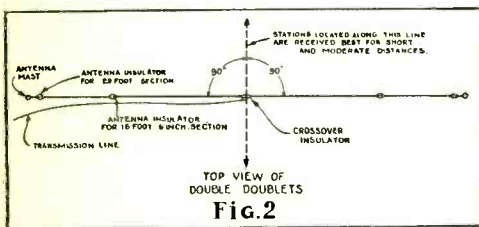
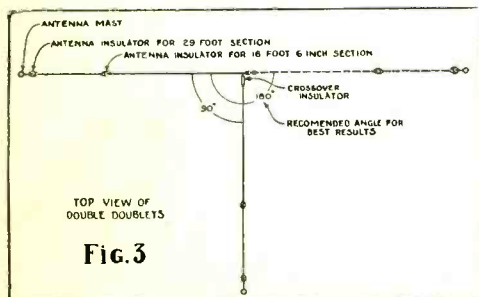

Fig. 2
Fig. 3
(c) The direction of the span for best results is that direction having the double doublet antenna placed broadside to the direction from which it is desired to receive. This direction of the span for best results is shown in Fig. 2.
Theoretically, the doublet should be stretched out fully—each half making an angle of 180 degrees with the other, as shown in Figs. 2 and 3, for most efficient reception. If this angle is reduced, due to constructional difficulties to 90 degrees, as shown in Fig. 3, signal strength will be decreased about 30% from the signal received from the doublet in its full 180-degree span.
A. Yes, theoretically it receives best from stations located along the perpendicular and in the same plane to the horizontal span (29-foot sections) of the doublet. See Fig. 2.
A. The efficiency of the doublet is decreased as the angle is decreased, due to less RF voltage being generated in sections of doublet as angle is decreased from 180 degrees... For 90 degrees this may cause as much as 30 per cent decrease in signal strength. See Fig. 3.